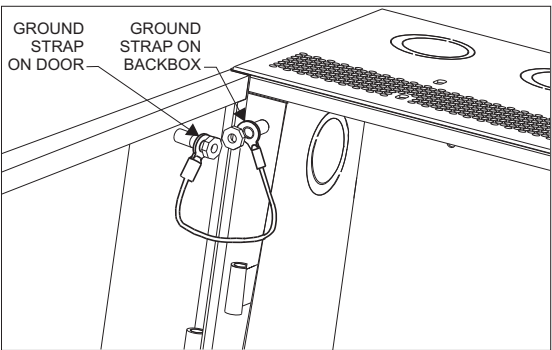

Figure 3
2. Install the ground strap by fastening it to the door and the backbox. (Refer to Figure 3.)